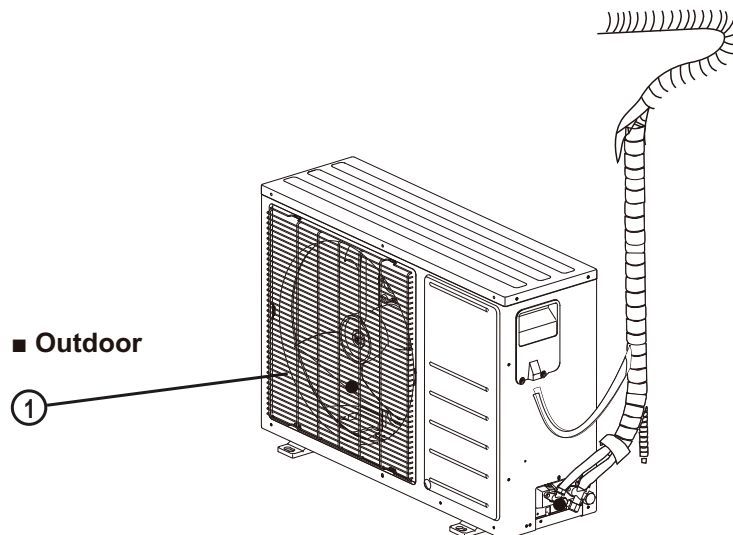

Fig. 2 — Outdoor Unit
- Figure 2 is only a sketch. Different models may differ slightly.